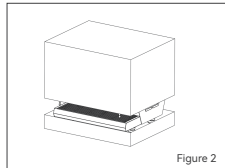

Figure 2
1. Open the packaging and take out the coffee machine, check if the accessories are complete, and peel off the surface protective film (Figure 2);